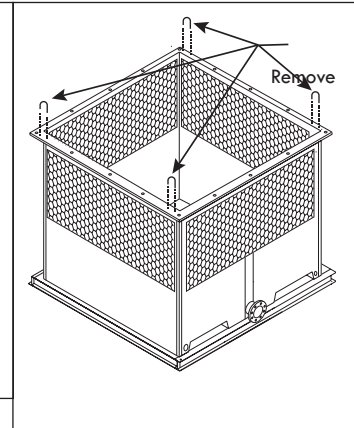

Figure A-6: Removing U-bolts from basin for a Single Fan Tower
- G. After the basin has been set in place, remove the U-bolts located on the flange before installing the next section (see Figure A-6).